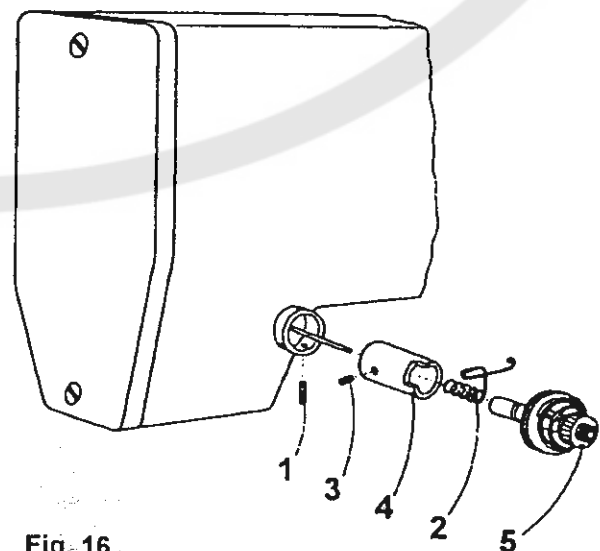

Fig. 16
22. To adjust the operation of the adjusting spring (Fig. 16)